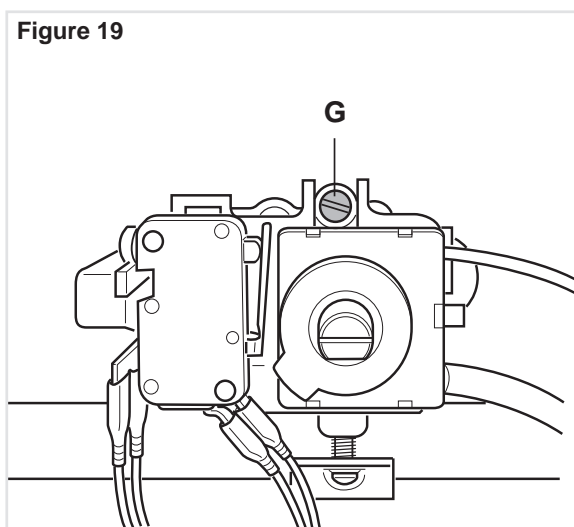

Figure 19
- Remove the knob and unscrew the by-pass screw "G" (fig. 19) about three times by passing a small flat screwdriver (Ø 3 mm blade, 100 mm length) through the panel opening.
- After having removed the knob again and being very careful not to turn the thermostat shaft, slowly screw the by-pass screws "G" (fig. 19) until you obtain a flame of 3-4 mm in height.